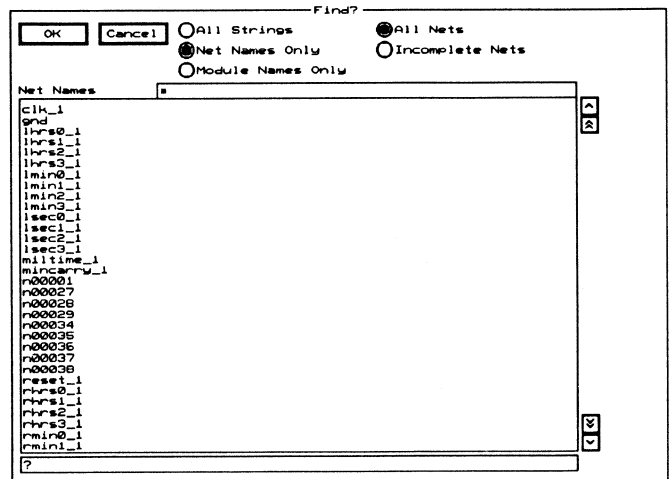

Figure 7-2 The **Find** dialog box.
4. Enter ? in the entry box. The **Find** dialog box displays (figure 7-2).